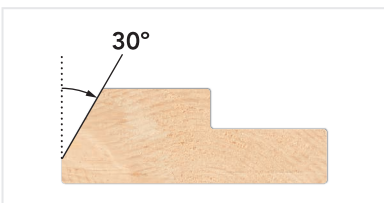

Figure 4: Horizontal spacer
**In-line Clamping Only:** To secure a part horizontally with a spacer (to keep top of workpiece clear of obstructions), cut a scrap piece of wood that is thinner than the part you need to secure—with one edge cut to a 30 degree angle [Figure 4].